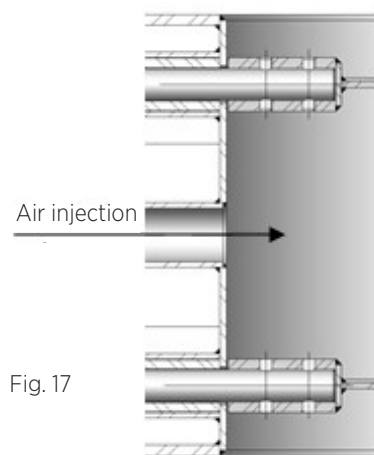

Fig. 17
- **Seat 3:** Air-sealed. This type of seal is particularly special. The valve is designed with two parallel rows of louvres, between which air is injected in order to completely separate the gases on both sides of the valve (fig. 17).